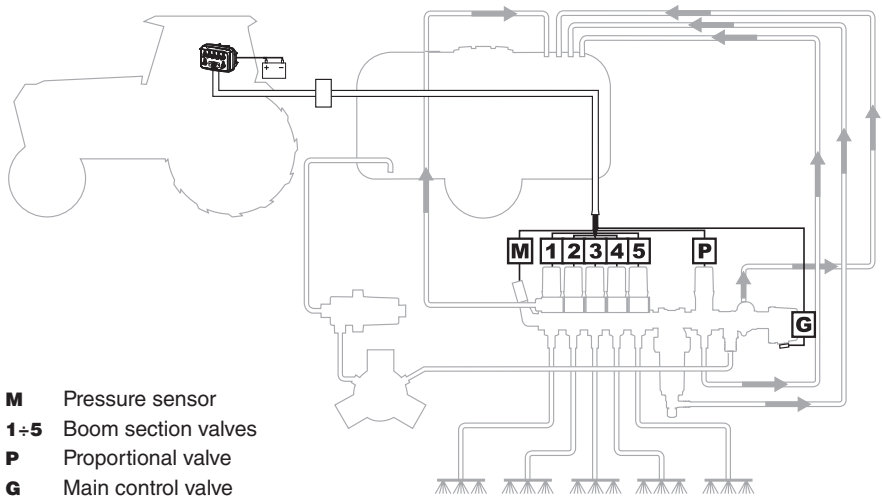

Fig. 6
Electric units are designed for connection to ARAG control devices (computers, monitors, displays). Each control device comes complete with the necessary connection cables and all cables are marked for ease of identification; please see Fig. 6 for a description of cable marks and their meanings.
- The hook-up diagram shown in Fig. 6 is for illustrative purposes only; standard unit adjustment procedure may vary depending on which control device is used.